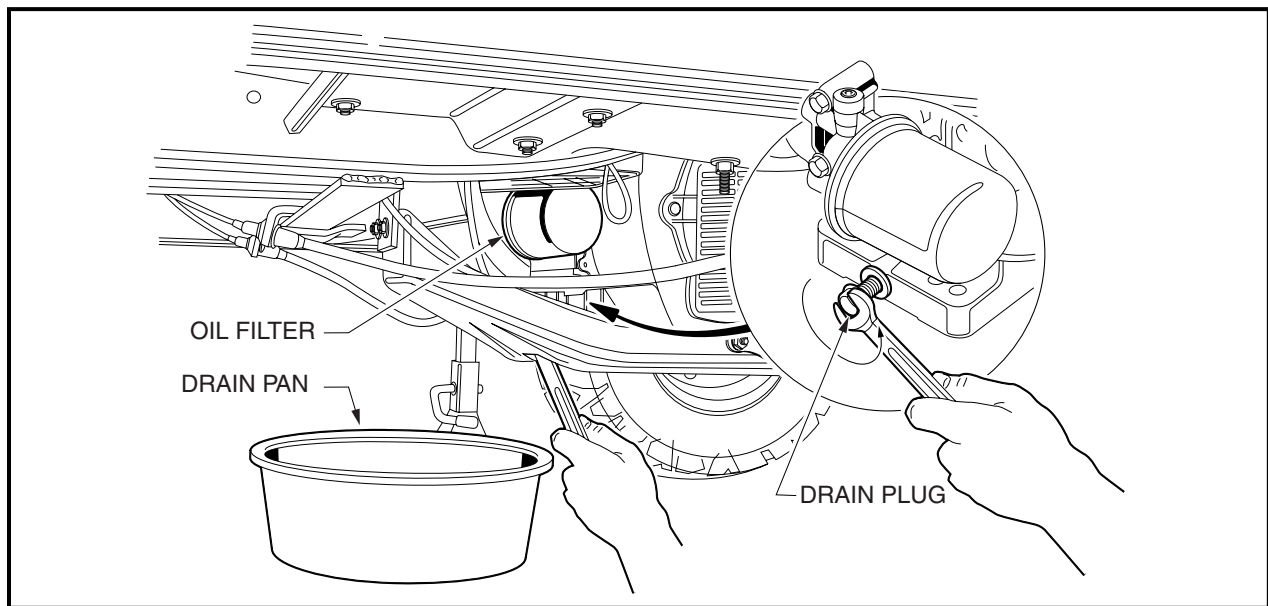

Figure 10-5 Engine Oil Drain Plug and Pan
3. Position a pan designed for oil changes under the front drain plug (**Figure 10-5, Page 10-5**).
4. Use a 14 mm socket or wrench to remove the drain plug, turning it counterclockwise, and allow the engine oil to drain into the pan (**Figure 10-5, Page 10-5**).
6. Use a 14 mm socket or wrench and replace the front oil drain plug, turning it clockwise, and tighten to 18 ft-lb (24.4 N·m) (**Figure 10-5, Page 10-5**).